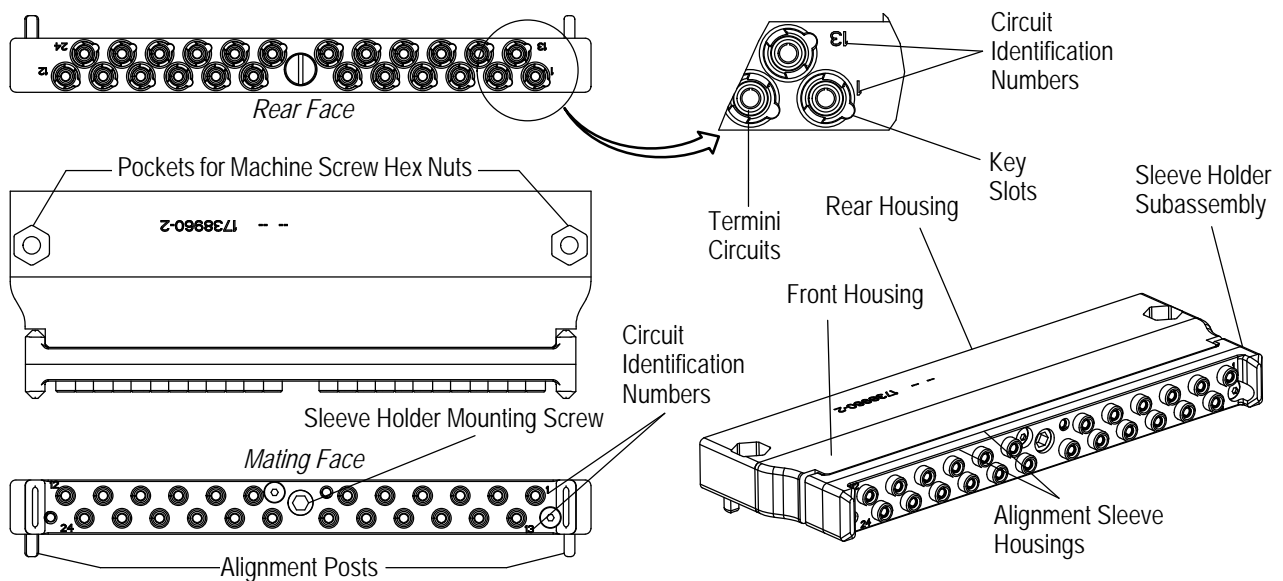

Figure 3
B. Module Connector (Figure 3)